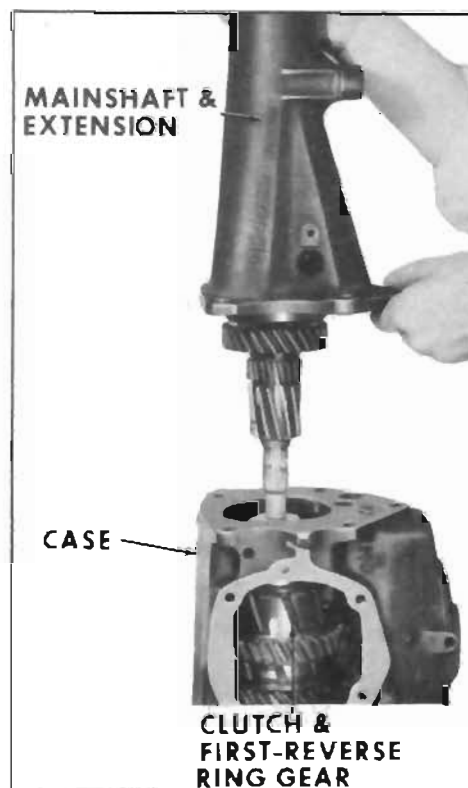

Figure 4-14—Mainshaft Removal
2. Remove extension-to-transmission case bolts and lock washers. Pull extension and mainshaft assembly from transmission case, leaving second and third speed clutch assembly and first-reverse ring gear in the case. Do not force the mainshaft. If necessary, rotate the second-third speed clutch slightly to aid removal. See Figure 4-14.